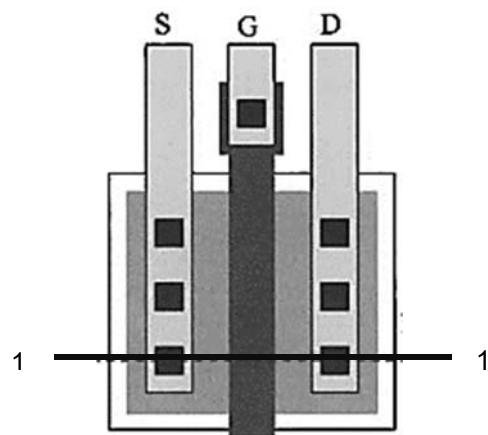

Figure 3
2. (a) (i) Explain the processes of the fabrication of a MOSFET shown in Figure 3. Your explanation should be based on the cross sectional view of section 1-1.
- (ii) Explain the differences of forming a polysilicon layer using negative resist and positive resist. Your explanation should be based on Figure 3.